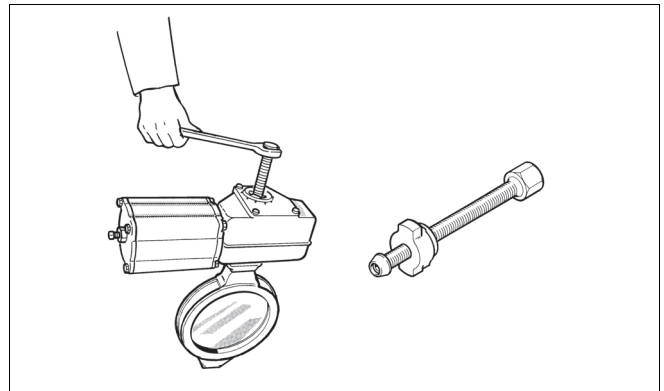

Fig. 17 Actuator removal, B1 series
- Detach the actuator using a suitable extractor. The correct tool can be ordered from the manufacturer (see Fig. 17).